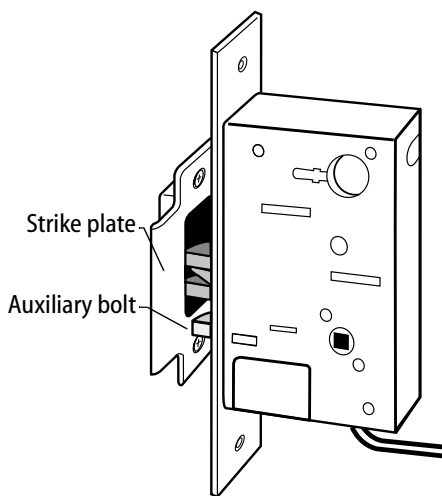

Figure 18
**Caution:** The auxiliary bolt must make contact with the strike plate, as shown in Figure 18. The auxiliary bolt deadlocks the latchbolt and prevents someone from forcing the latch open when the door is closed. If the incorrect strike is installed, a lock-in can occur.